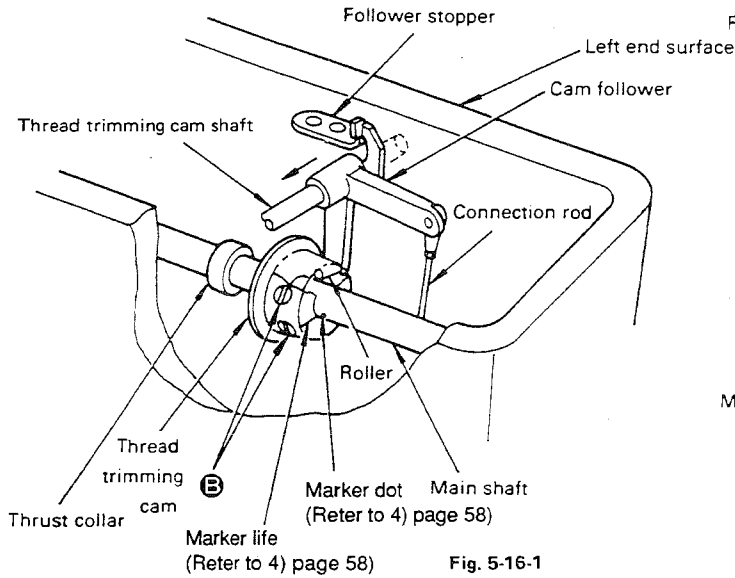

Fig. 5-16-1
- 2) The marker line on the thread trimming cam should align with the marker dot on the main shaft. (Fig. 5-16-1)